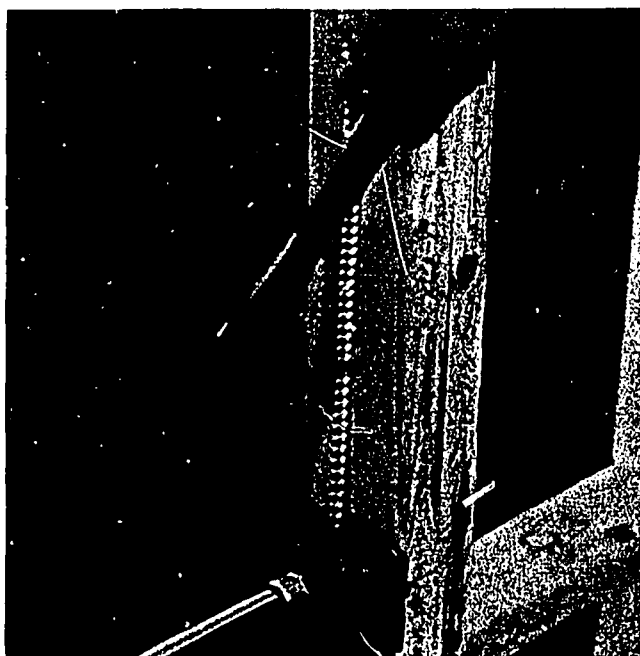

Fig. 53-13. Securing BX Cable to Studing
9. Staple the BX cable within 8" of the outlet box. See Fig. 53-13.